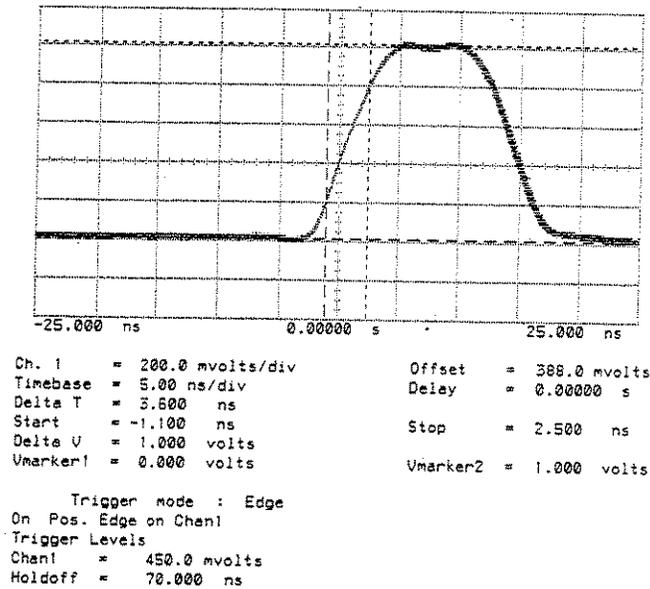

Figure 8-8 Isolated positive pulse at 34MHz
- Adjust the Oscilloscope to obtain an isolated positive pulse as shown in Figure 8-8.